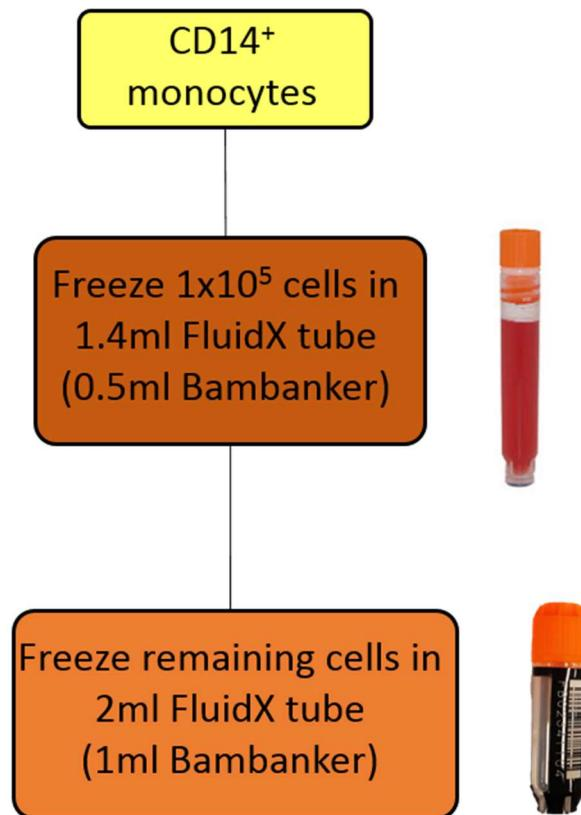

Figure 9.2. Isolated monocytes will frozen in 1x aliquot (1×10^5 cells in 0.5ml Bambanker) and the remaining cells will be in 1x aliquot in 1ml Bambanker.
- The monocytes will be frozen in Bambanker serum-free freezing medium and stored as follows (see **Figure 9.2**):